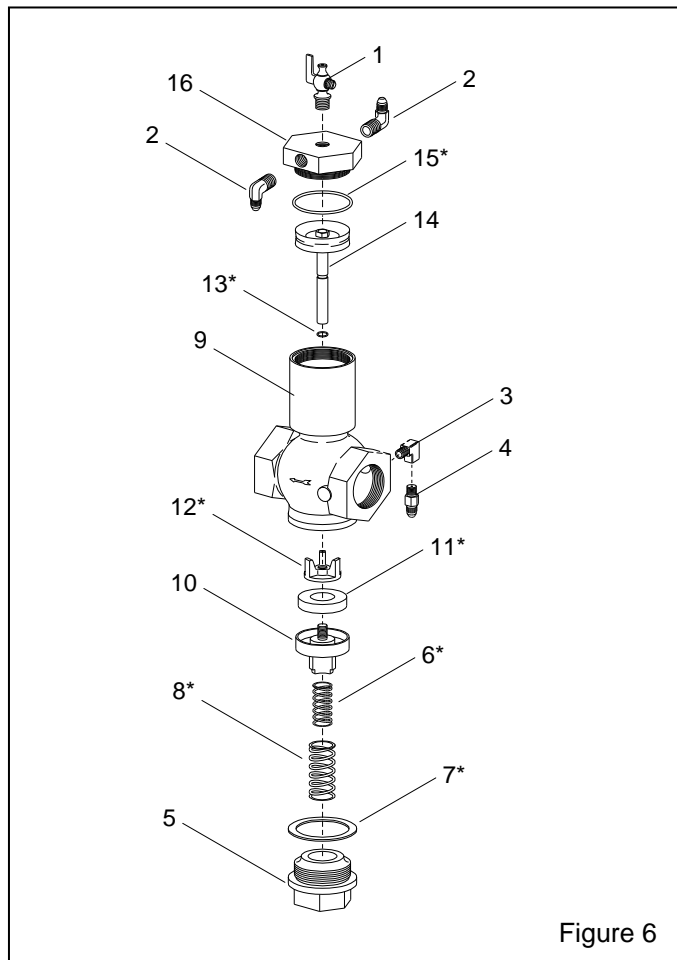

Figure 6
**6.1.4** Check for air escaping from the opening under the control handle. If no air is escaping, the orifice on the inlet valve (Figure 6, item 4, or Figure 7, item 4) or the line from the orifice to the control handle is blocked and must be cleared.
**6.2.2** Check to make sure that the lower fitting on inlet valve (Figure 6, item 4 or Figure 7, item 4) has not been switched for a fitting with a full flow orifice. The orifice on the 1/8" NPT end of the fitting must be 1/16" diameter.
7.4 1-1/2" Inlet Valve, Figure 6